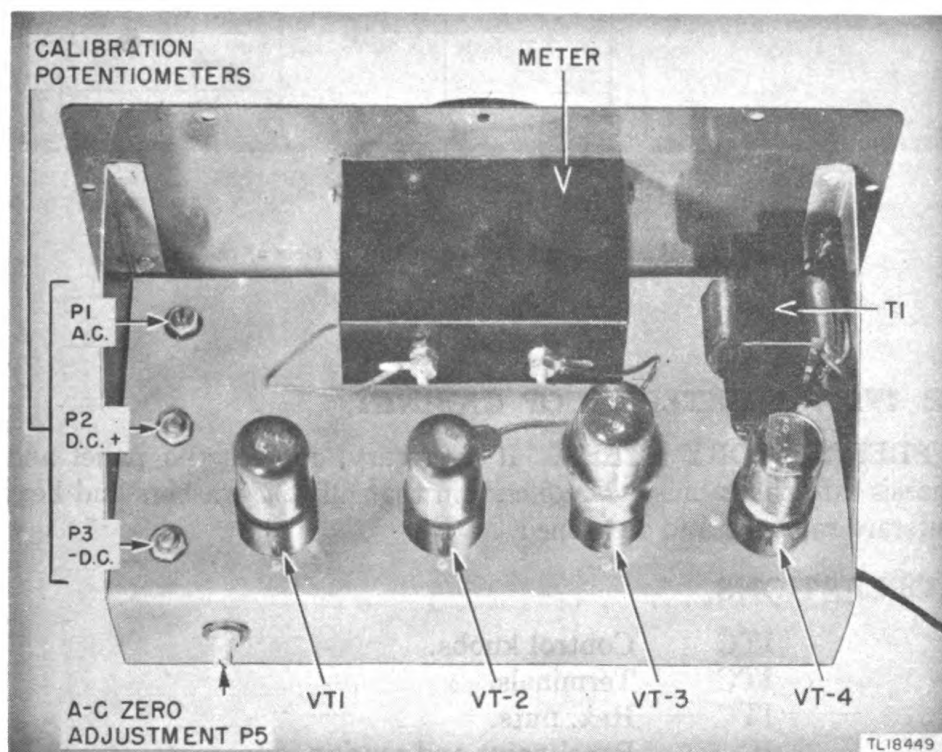

Figure 10. Vacuum tube voltmeter, top inside view.
31. ITEM 2, INTERIOR OF CABINET (figs. 10 and 11).